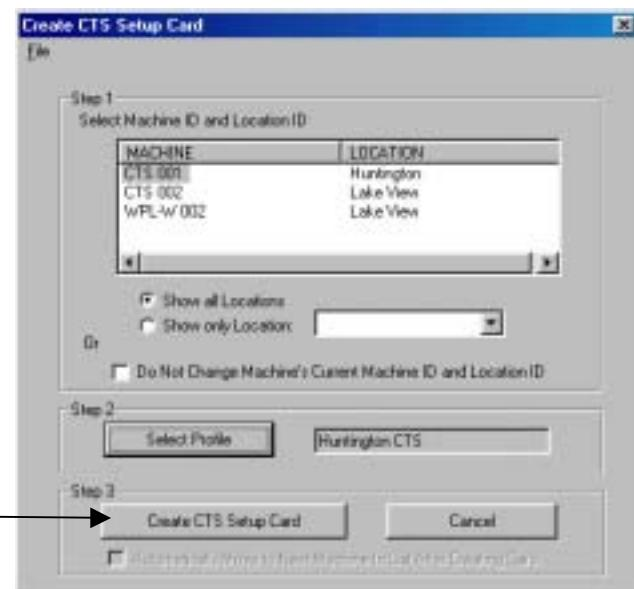

Figure 3.20 Creating the CTS Setup Card
6. Click the **Create CTS Setup Card** button (Figure 3.20).